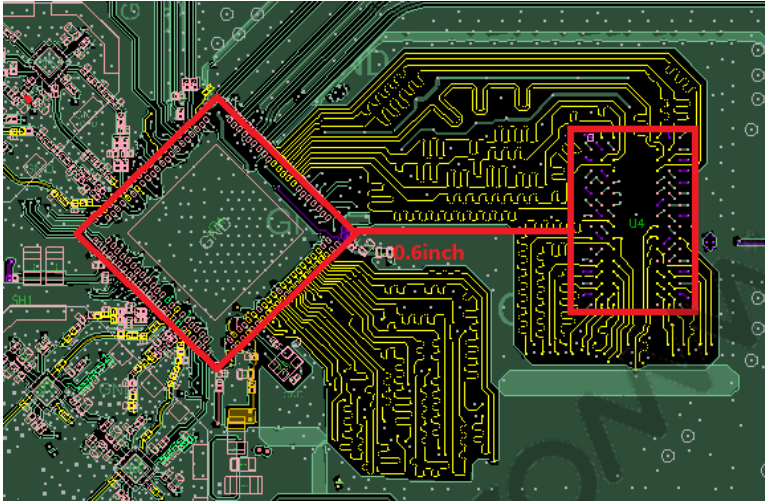

Figure 3-8 DDR3L routing topology
The command address (CA) bus and data bus are routed in point-to-point topology, as shown in Figure 3-8. VTT terminations are used for CA lines.